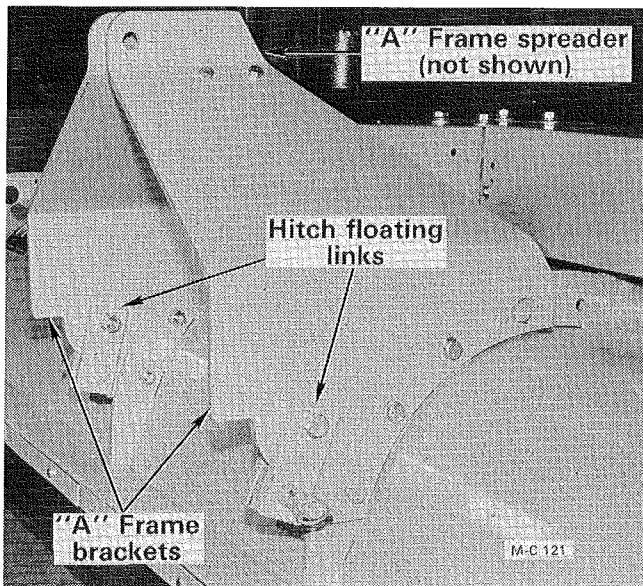

Figure 5
1. Attach the left and right "A" frame brackets to the front four holes in the mower body with  $\frac{5}{8}$ -11 x 2" (Grade 5) hex-head capscrews, lockwashers and hex-nuts as shown in Figure 5. Do not use the fifth hole. The capscrews are to be left loose.
4. Install the hitch floating links and bushings as shown in Figure 5. Secure with  $\frac{3}{4}$  x 10 x 3" (Grade 5) hex-head capscrews, lockwashers and hex-nuts.